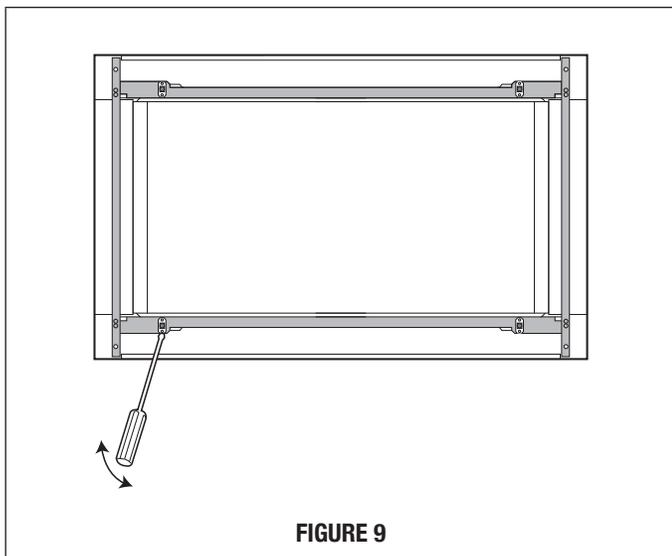

FIGURE 9
D. DISASSEMBLY: The **FRONT FRAME** and **BACK FRAME** come pre-assembled with ball studs engaged in the receivers. Separate the **FRONT FRAME** from the **BACK FRAME**. Place the assembly facedown on a protected surface. At the location of the ball stud, insert a flathead screwdriver between the **FRONT FRAME** and the **BACK FRAME** and gently pry up to disengage the ball stud from the receiver. Repeat for each corner. See Figure 9.